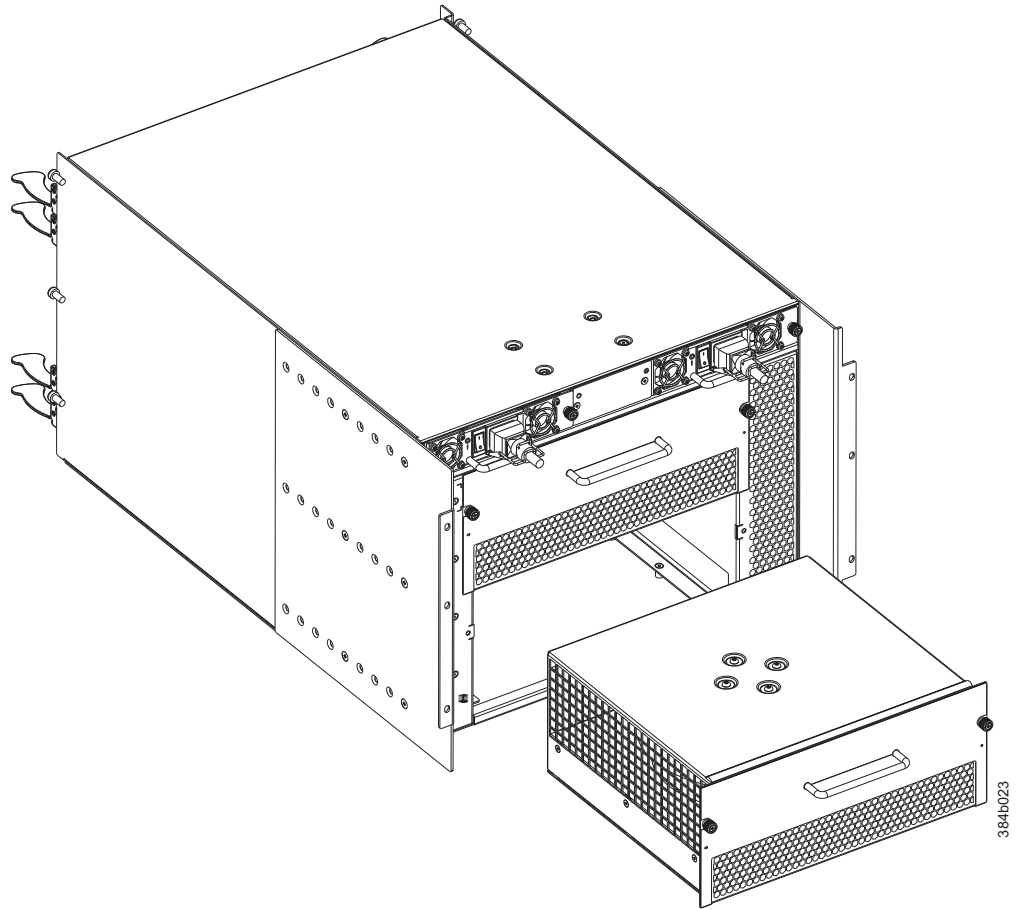

Figure 42. Blower assembly removal and replacement
3. Grasp the handle and pull, sliding the blower assembly from the chassis and supporting the blower assembly from beneath as you remove it (see Figure 42 on page 93).